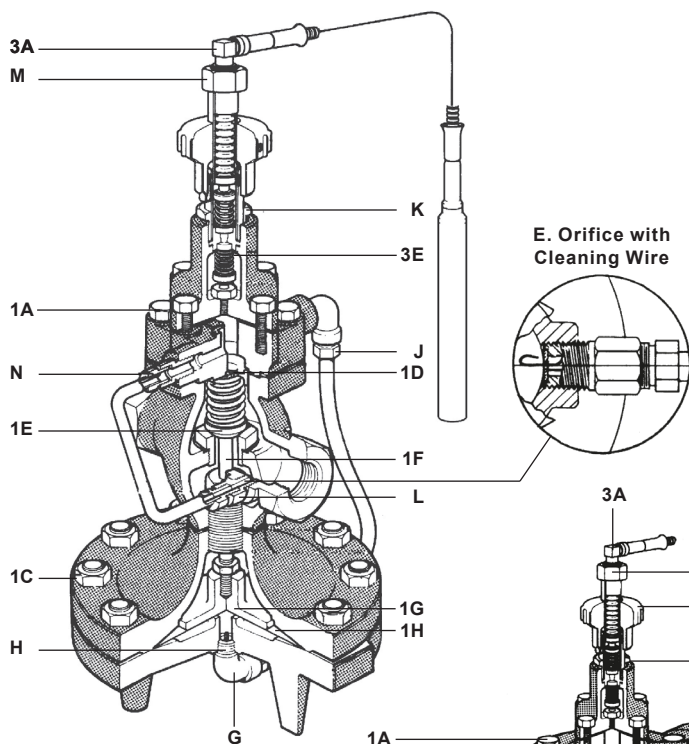

Fig. 4 - 1/2" - 2" Sizes
3.1.2 Servicing Procedure (Refer to Fig. 4 and 5)
(Refer to Figs. 4 and 5)